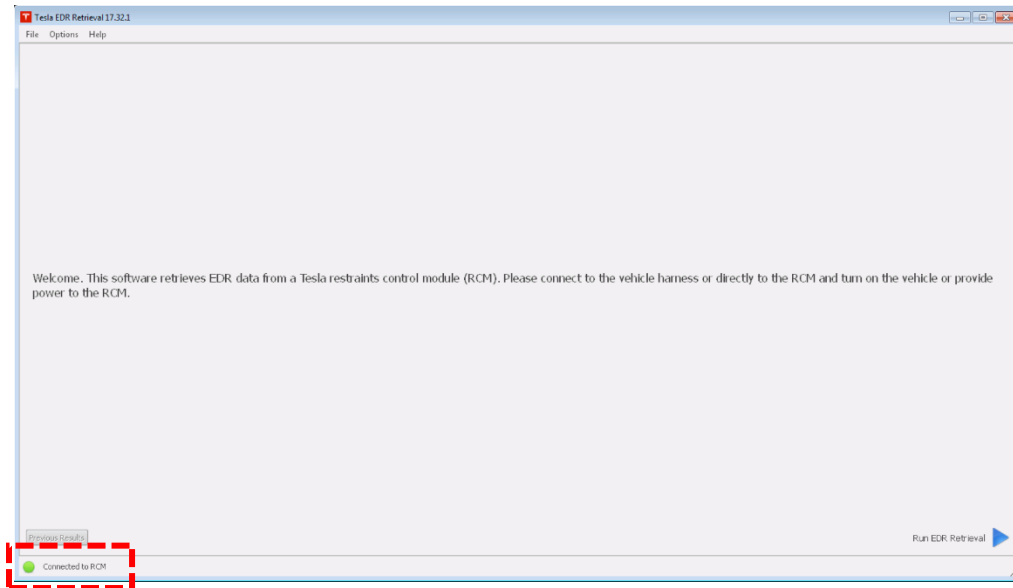

Figure 38. EDR program successful connection
- When connected properly, a green circle and the message “Connected to RCM” displays on the bottom left corner of the window (see Figure 38. EDR program successful connection).